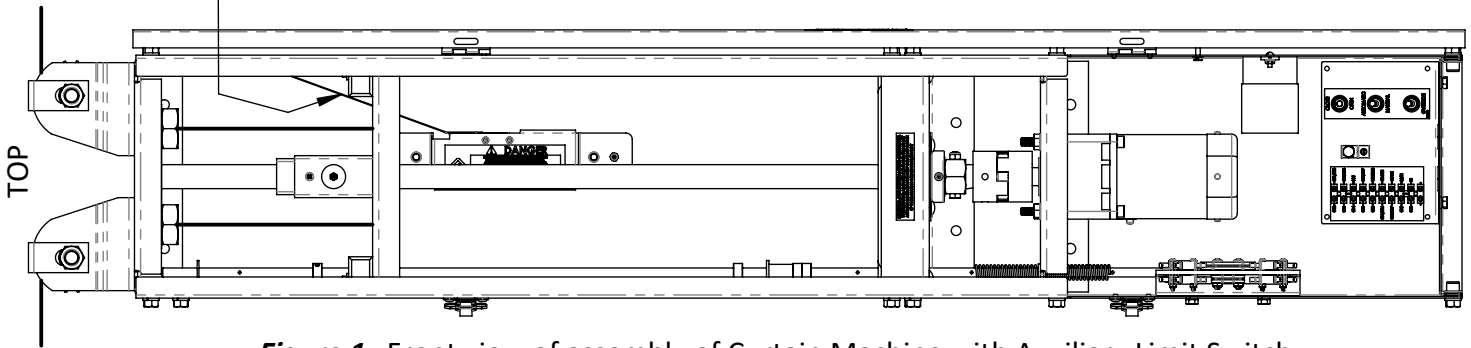

Figure 1: Front view of assembly of Curtain Machine with Auxiliary Limit Switch
1. Using the provided magnets on back side of bracket, adhere switch to the back wall of the Curtain Machine. Adjust position until load block triggers the switch at the desired distance from open. Be sure the plastic load block cannot travel past the switch paddle, as shown in Figure 1.
2. (Optional) To make position of bracket permanent, use impact drill with 5/16" nut driver to place (2) TEK screws through unused holes in bracket.